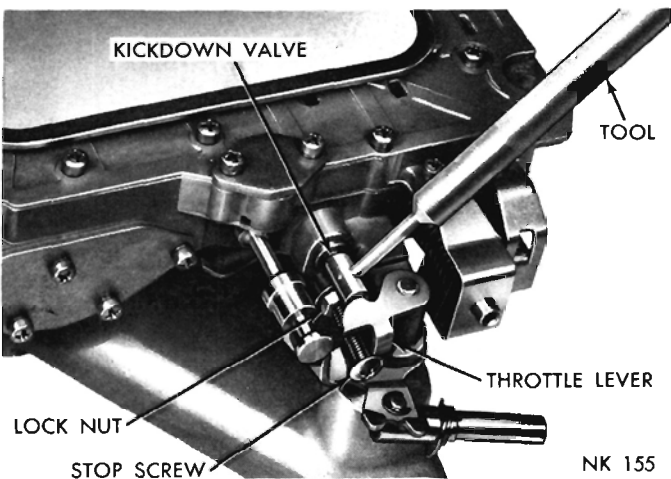

Fig. 41—Throttle Pressure Adjustment
(1) Remove the valve body assembly from the transmission to perform the adjustment. (Refer to Page 75).
(2) Loosen the throttle lever stop screw lock nut and back off approximately five turns (Fig. 41).
(3) Insert gauge pin of Tool C-3763 between the throttle lever cam and the kickdown valve.
(4) By pushing in on the tool, compress the kickdown valve against its spring so the throttle valve is completely bottomed inside the valve body.
(5) As force is being exerted to compress the spring, tighten the throttle lever stop screw finger tight against the throttle lever tang with the throttle lever cam touching the tool and the throttle valve bottomed.